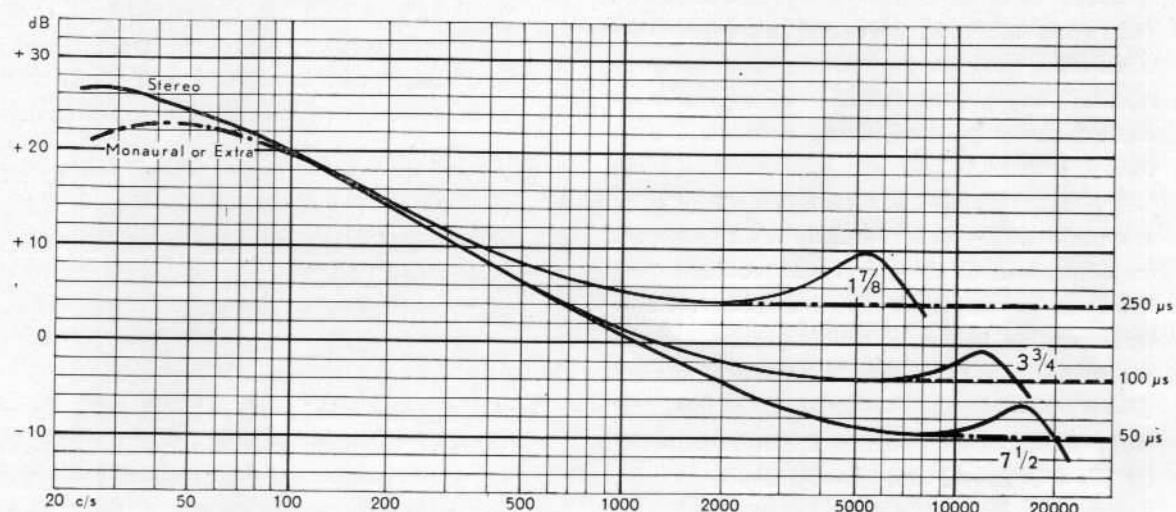

Fig. 4.
1. Adjust the oscillator frequency. A radio receiver tuned to 200 kc/s is used as an indicator. The antenna input terminals must be supplied with a signal of 200 kc/s (Droitwich or a crystal oscillator) and the oscillator coil L3 (22.1) of the tape recorder, see circuit diagram Fig. 4 and foto S.M. Fig. 21, is adjusted so its third harmonic of 66 $\frac{2}{3}$ kc/s beats with the 200 kc/s signal.
2. The frequency response of the two amplifiers is checked at all three speeds. The response should correspond to the curves in Fig. 4. During these measurements the generator is connected across 1000 ohms in series with the heads and the V.T.V.M. across the corresponding output terminals. The generator voltage is regulated so that the output voltage does not exceed 3 volts at frequencies with max. gain (30—60 c/s). The stereo-monauro. switch is set to STEREO position and the loudspeaker switch (30.7) in the middle position. The gain at 1000 c/s with the volume control at max. is approx. 67.5 dB (2400 times) at 7 1/2 ips, approx. 70 dB (3150 times) at 3 3/4 ips and approx. 73.5 dB (4750 times) at 1 7/8 ips, measured from the head to the output terminals. Also check that the output voltage increases 10—12 dB at 100 c/s when the bass switch is set in position BASS in both amplifiers and at all speeds.